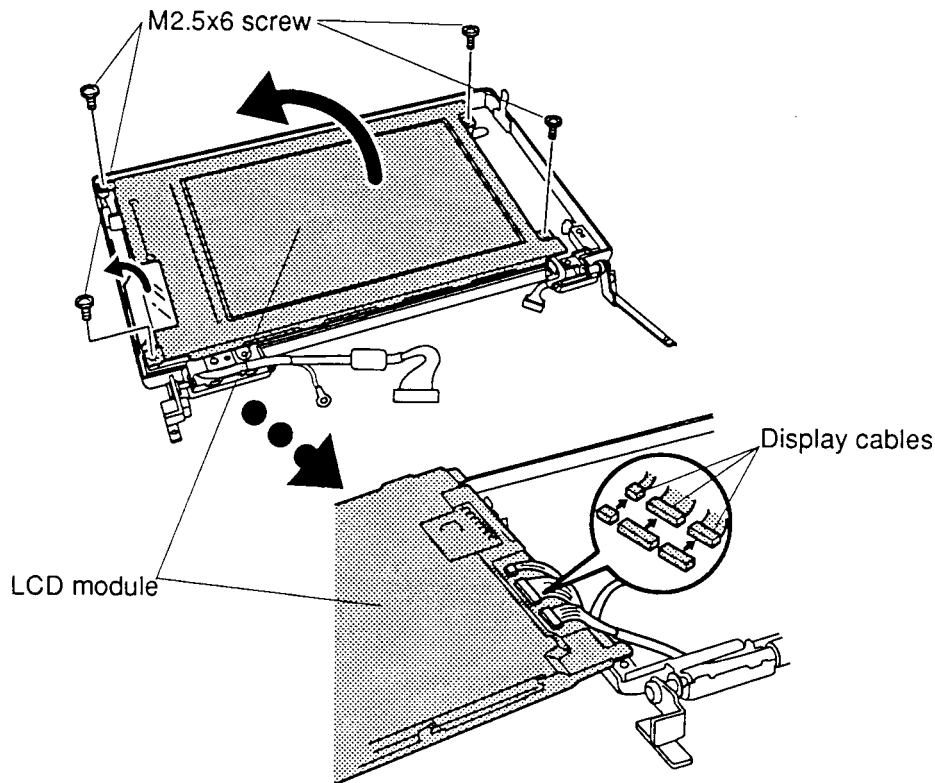

Figure 4-44 Removing the LCD module (T4700CS)
To remove the T4700CS's color LCD module, follow the steps below and refer to figure 4-44.
3. Remove the **four M2.5x6 screws** securing the **LCD module** to the LCD cover (figure 4-44).
4. Carefully rotate the **LCD module** from right to left out of the display cover and disconnect the **three display cables** from the LCD module (figure 4-44).
To install the T4700CS's LCD module, follow the steps below and refer to figure 4-44.